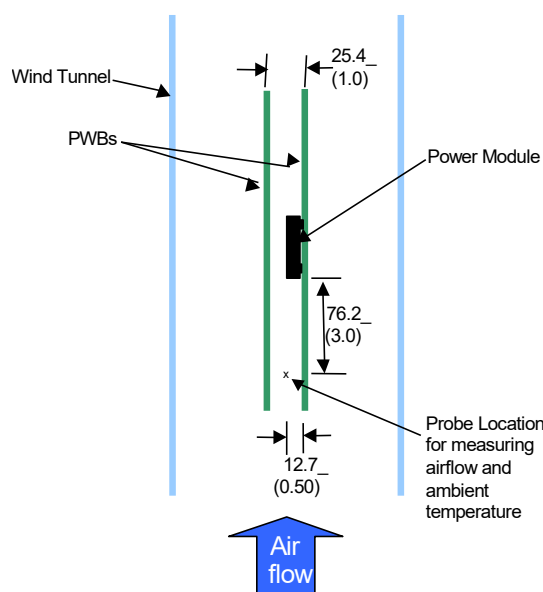

Figure 28. Thermal Test Setup.
Power modules operate in a variety of thermal environments; however, sufficient cooling should always be provided to help ensure reliable operation. Considerations include ambient temperature, airflow, module power dissipation, and the need for increased reliability. A reduction in the operating temperature of the module will result in an increase in reliability. The thermal data presented here is based on physical measurements taken in a wind tunnel. The test set-up is shown in Figure 28. The preferred airflow direction for cooling the module and the thermal reference points, Tref used in the specifications are shown in Figure 29. For reliable operation the temperatures at these points should not exceed 120°C (IC200) and 115°C (C202). The output power of the module should not exceed the rated power of the module ($V_{o,set} \times I_{o,max}$). Please refer to the Application Note “Thermal Characterization Process for Open-Frame Board-Mounted Power Modules” for a detailed discussion of thermal aspects including maximum device temperatures. Increased airflow over the module enhances the heat transfer via convection. The thermal derating of figures 2, 8, 14 and 20 show the maximum output current that can be delivered by each module in the indicated orientation without exceeding the maximum Tref temperature versus local ambient temperature (TA) for several air flow conditions. The thermal derating curves were generated using a 12 layer evaluation board with 3oz copper in inner layers and 2 oz in outer layers.